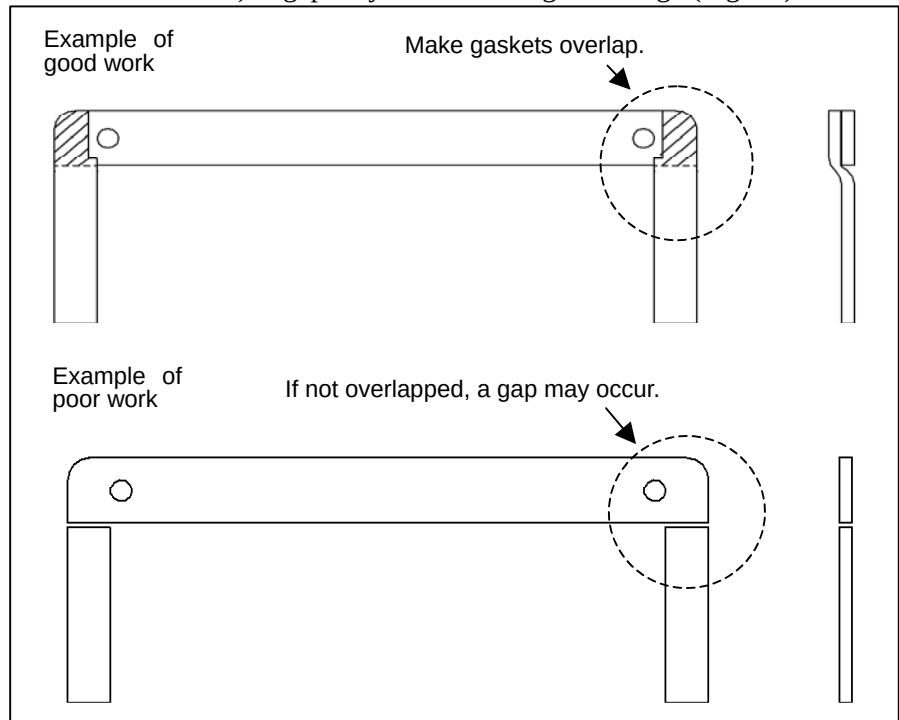

**Fig. 10 How to attach gaskets**
- <9> If holes are made in a power magnetism cabinet wall panel to install an amplifier, attach the supplied gaskets to the holes to seal up the cabinet. At each corner of the amplifier, make gaskets overlap with each other. If not (for example, gaskets are cut short), a gap may occur, leading to leakage (Fig. 10).